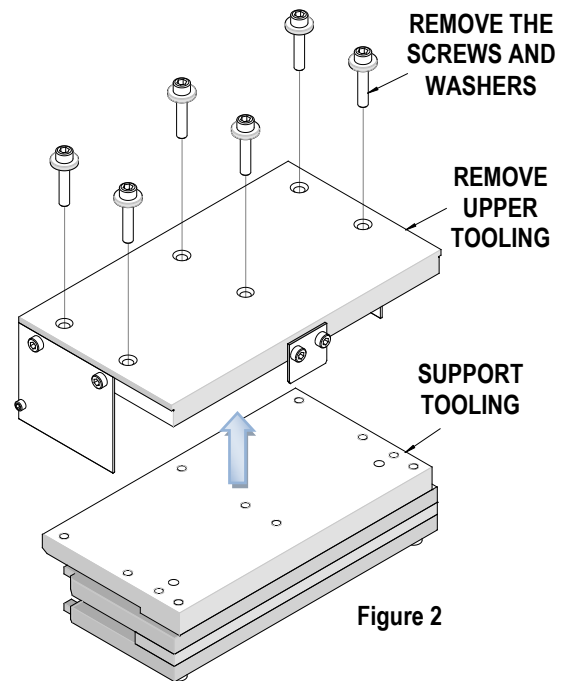

Figure 2
1. Disassemble the (2) halves as delivered by unscrewing the screws on the top of the "upper tooling". See Figure 2.